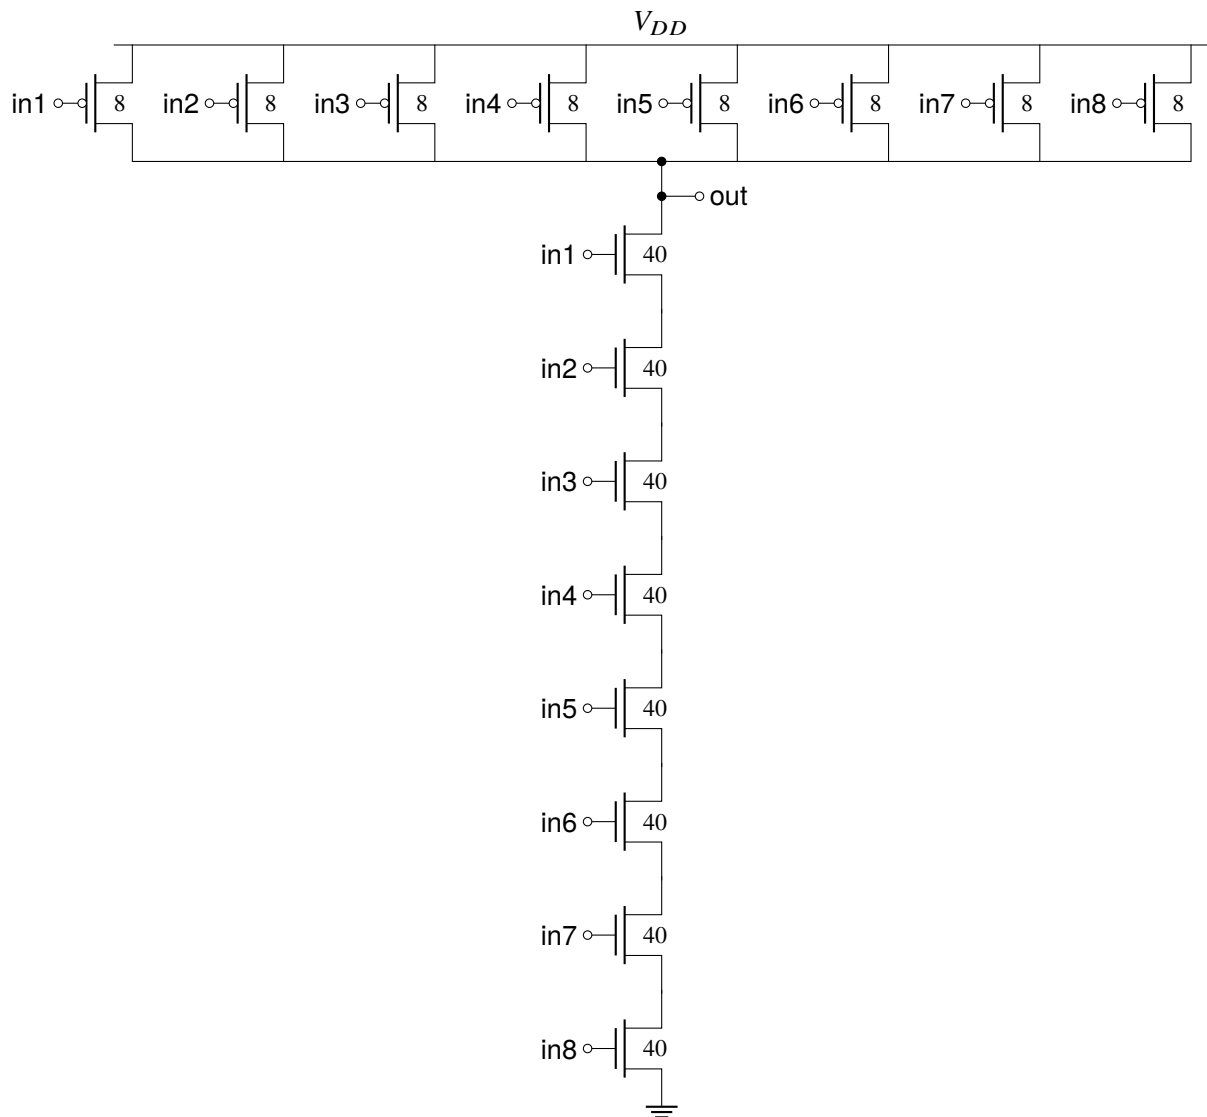

Figure 9: CMOS NAND8A schematic.
**NAND8A** This design directly extends the structure of NAND2 into NAND8. Its schematic is shown in Figure 9.